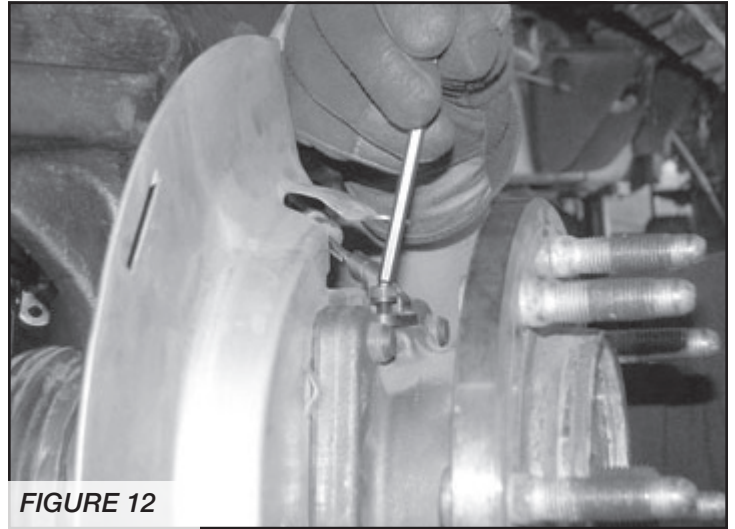

FIGURE 12
19. Install the wheel speed sensor into the factory hub. **SEE FIGURE 12**